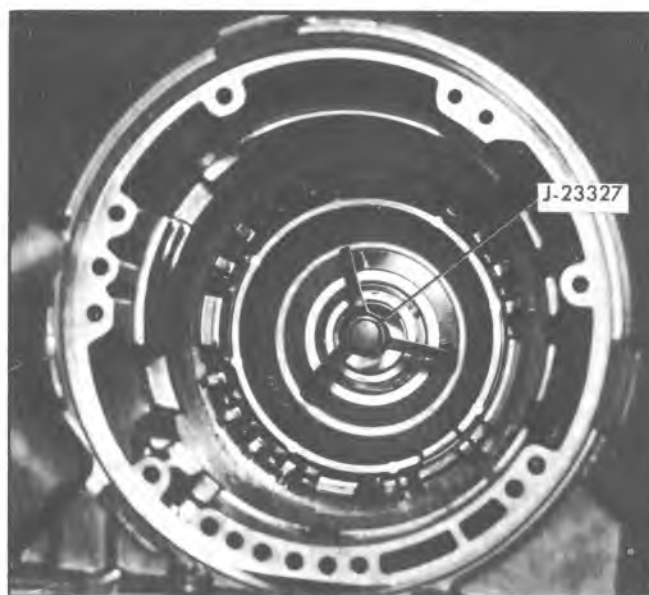

Fig. 7A-48B--Compressing Low and Reverse Clutch Piston Spring Retainer
21. Compress low and reverse clutch piston spring retainer using tool J-23327 (fig. 7A-48B) and remove piston retaining ring and spring retainer.